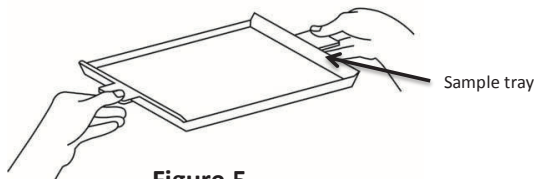

Figure 5
6. Wet the gel and place gel at the center of the sample tray (**Figure 5**)